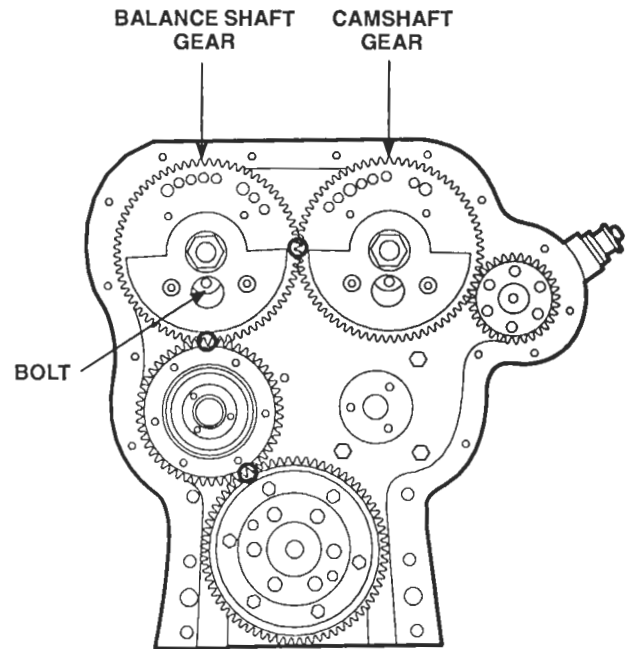

Figure 5. Removing or Installing Shaft Bearing Retainer Bolts
12. Rotate the gears as required to reveal the end bearing retaining bolts. Remove the bolts (Figure 5.)